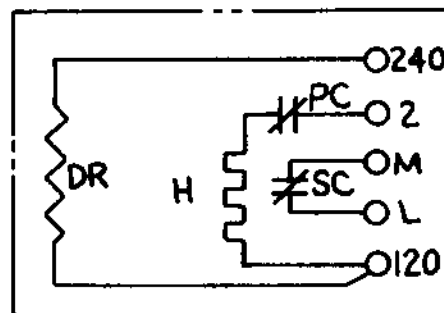

FIGURE 6 - Oil Pressure Control Wiring
3. Lower the thermostat setting to energize the compressor starter(s). Within 100-140 seconds the time delay contacts (Figure 6) should open and de-energize the compressor starter(s).